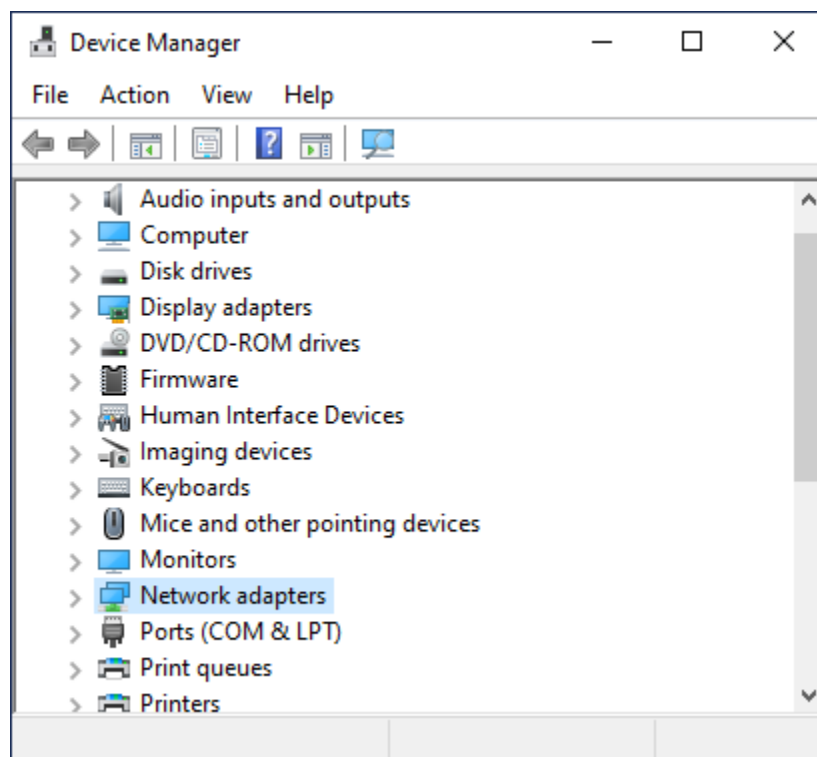

Figure 11. Device Manager Window
2. In the Device Manager window, click **Network Adapters**. Refer to Figure 11.